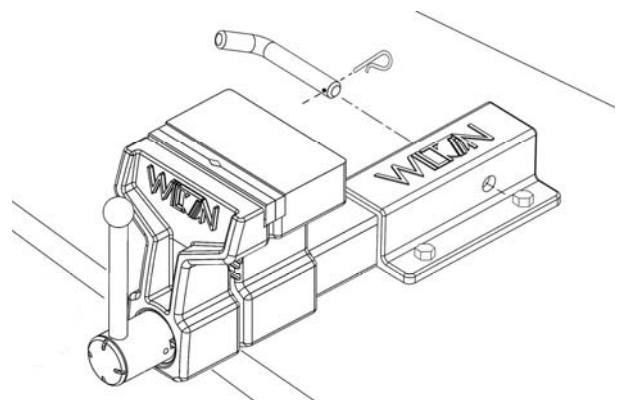

Figure 4
5. Install hitch pin through holes of tube and receiver (Figure 4).